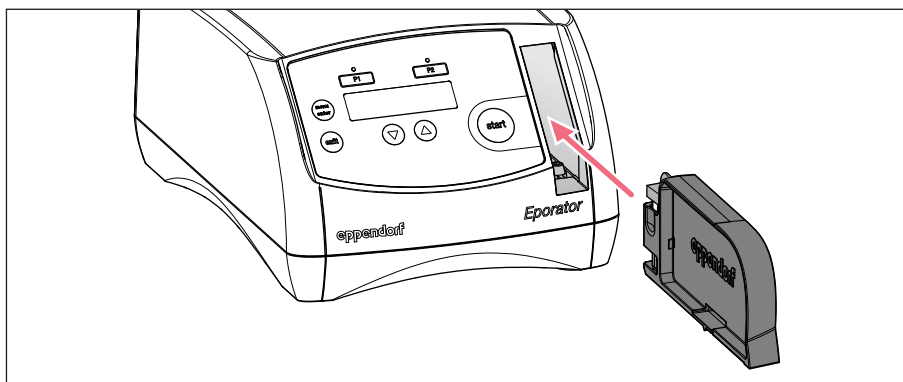

Fig. 5-4: Insert the cuvette holder
7. Slide the holder in the cuvette shaft of the Eporator until it engages (Fig. 5-4 on p. 16).